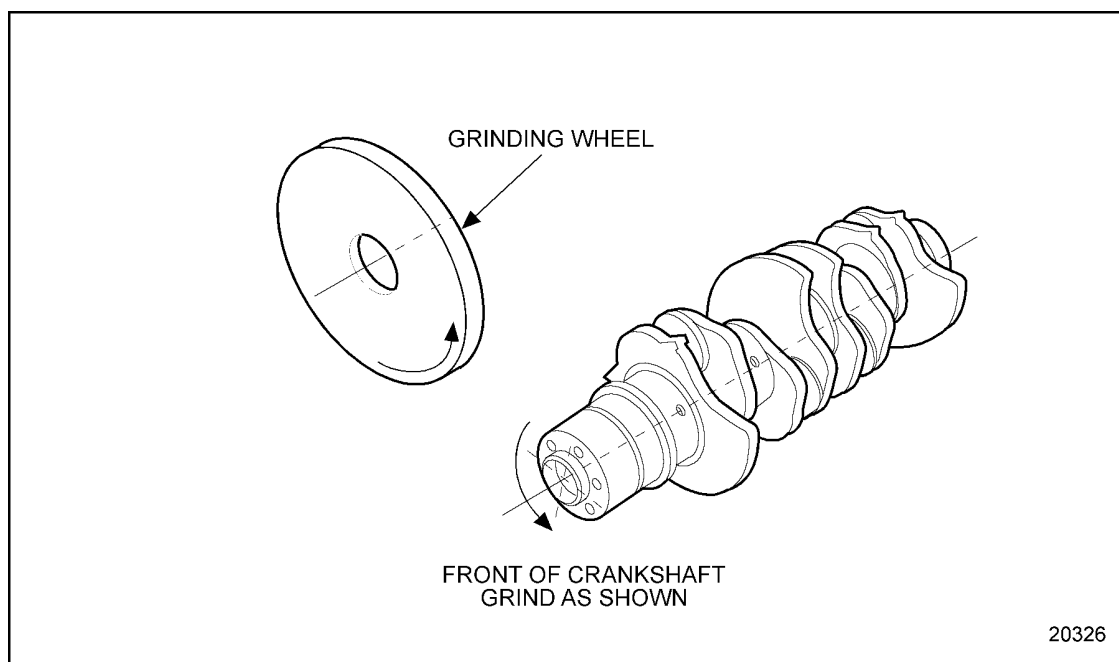

Figure 1-442 Crankshaft Grinding Rotation
1. Connecting rod and main bearing journal grinding should be performed with crankshaft rotation opposite to actual engine rotation. See Figure 1-442.